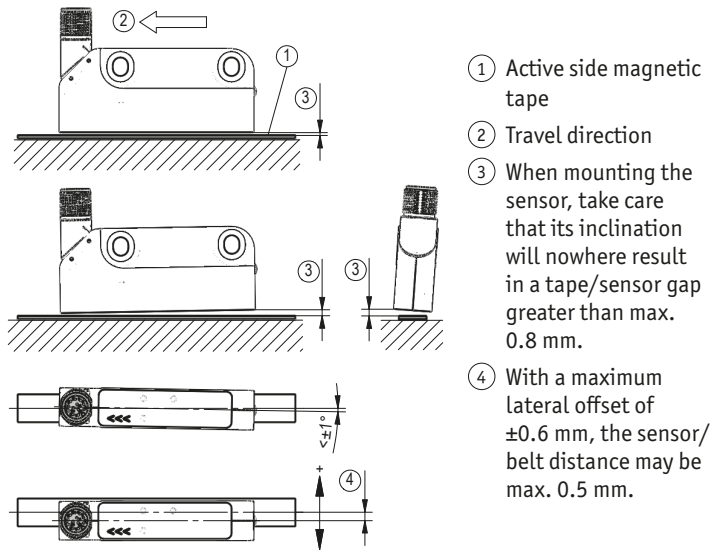

Fig. 8: Mounting tolerances, dimensions in mm
The position of the sensor regarding the magnetic tape is exactly defined. When mounting, special care shall be taken to maintain an air gap between tape and sensor over the whole measurement distance whether the tape or sensor is moved or not (see Fig. 8). As a mounting aid you may use the enclosed spacing template.
- The distance tolerances were not observed over the whole measuring length (see Fig. 8).
- The magnetic sensor has been mounted with the active side turned away from the tape (see Fig. 8).